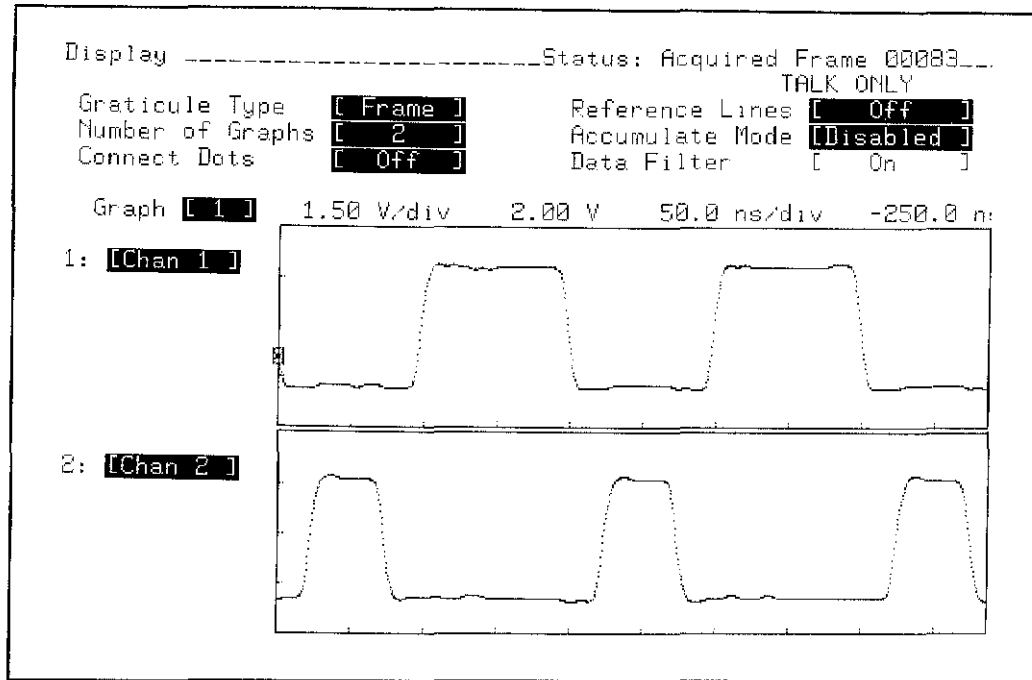

Figure 3-21. Display Configuration and Minimum Setup Time Test Waveforms
12. Configure the display as shown in figure 3-21. Observe the waveforms displayed. They should appear similar to those shown in figure 3-21. If not, repeat steps 1 through 11.
16. Exchange the BNC cables connected to Channel 2 and External Trigger inputs. The display should appear similar to figure 3-21.